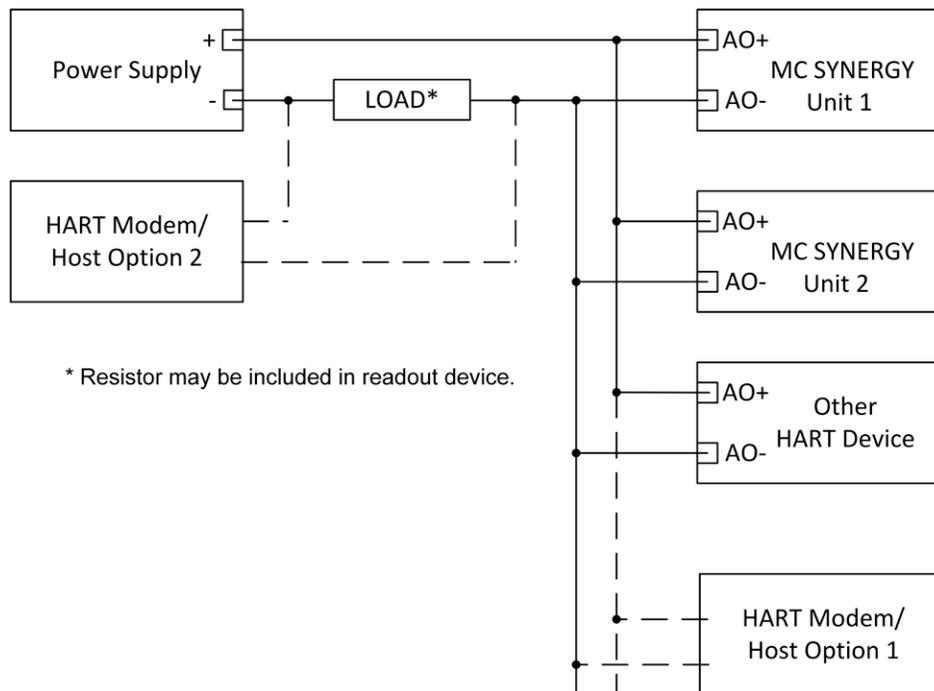

Figure 2.18—HART multidrop wiring
**HART Multidrop** (Figure 2.18, page 47) requires a two conductor cable connected to an 12.5 to 27 VDC power supply (which may be supplied by the HART input/output system), other HART-enabled field devices (up to 63 devices), and a HART input/output system located in a remote location. In addition to the HART Modem, a handheld HART terminal may be connected to read the HART messages.